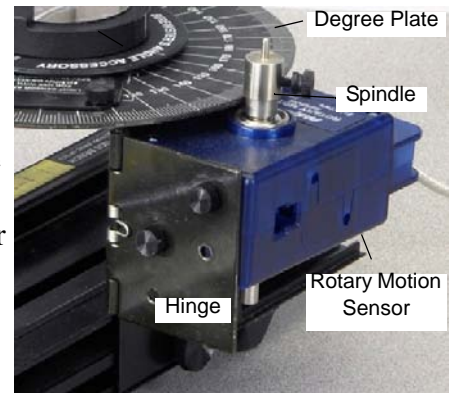

Figure 4: Mount the Rotary Motion Sensor to the Base
5. Mount the Rotary Motion Sensor to the upper holes on the hinge of the Spectrophotometer Base. Mount the Spindle on the shaft of the Rotary Motion Sensor so that the bigger diameter of the spindle is against the edge of the Spectrophotometer Degree Plate (see Figure 4).